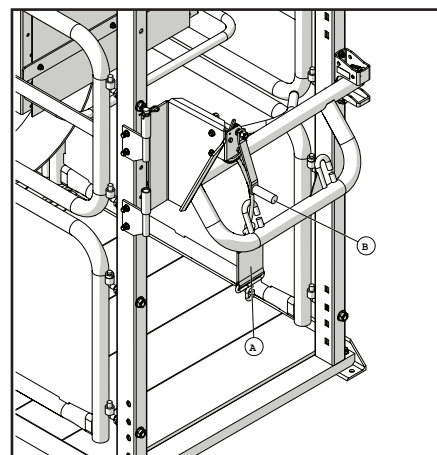

Figure 9: Rear leg lifter
2. Attach the rear leg lifter strap (a) to the leg about 4" above the hoof (Figure 9).
3. Lift the leg into place as quickly as possible using the rear leg lifter winch (b) (Figure 9).